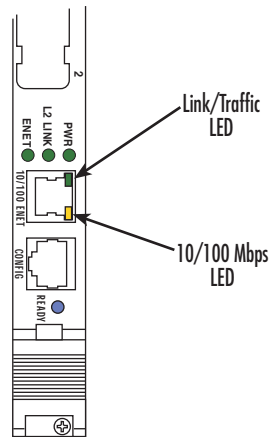

Figure 3. Model 6081RC Ethernet port LEDs
- Two LEDs per port (see figure 3): link/traffic LED (solid green when link is established; flashing green when the port has traffic) and 10/100 Mbps LED (solid yellow at 100 Mbps; off at 10 Mbps)